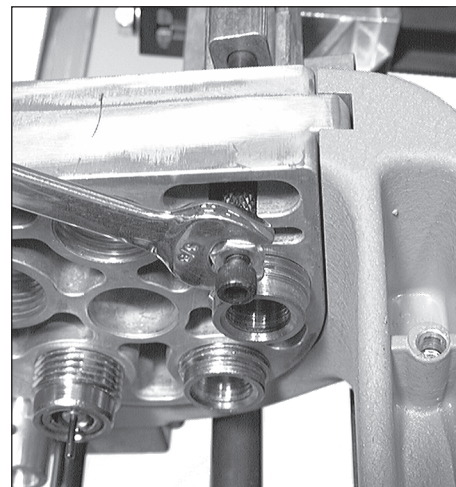

FIG 112
7. Secure the jam nut by holding the black push rod while tightening it using a 3/8" wrench **FIG 112**.